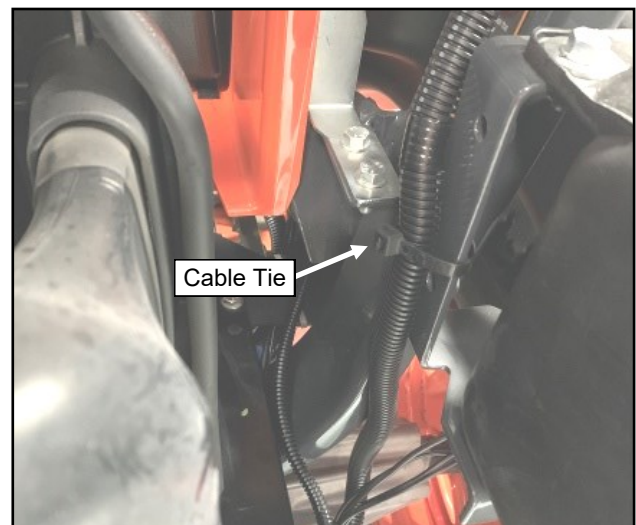

Fig. 7.6 (Secure Wire Harness)
- 7.6 See fig. 7.6. Using one cable tie, secure the wire harness to the vehicle frame. Ensure that the wire harness will not contact any sharp edges. Make sure hood closes without hitting the wire harness.